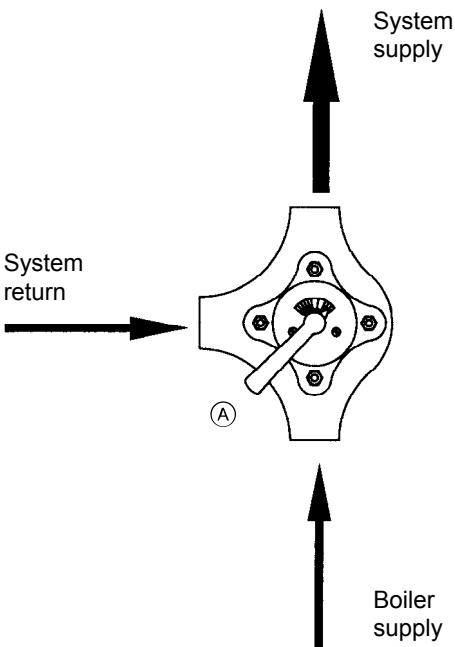

Fig. 3
Figures 3 and 4 show the 2 possible configurations of a 3-way mixing valve on which the Dekamatik-HK 1 may be mounted. There are two feasible locations where the photoelectric sensor may be installed: (A) and (B).
If the system return is piped into the mixing valve from the left-hand side (see Fig. 3), mount the photoelectric sensor in position (A) on underside of mixing valve actuator housing.